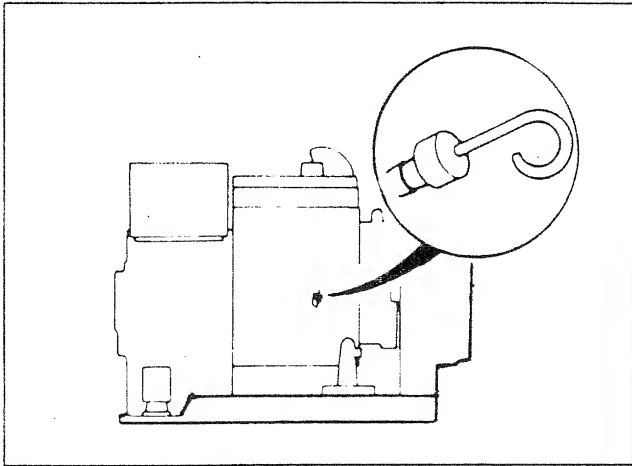

Figure 11 — Checking Oil Level
**Check Engine Oil:** Check the engine crankcase oil level at least every 8 hours that you operate the unit, or before every time you use it (Figure 11).